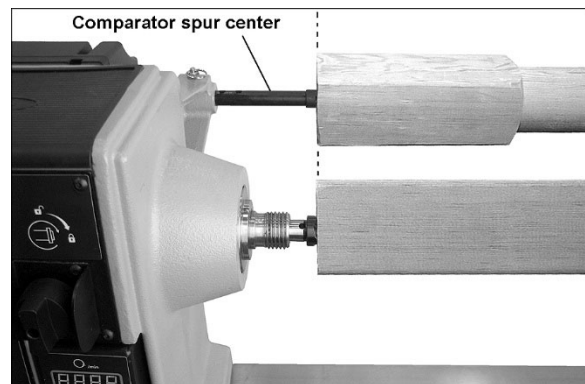

Figure 8-6: comparator
1. Install comparator *spur center* into guard bracket, by lifting up on plunger and inserting comparator spur center until its point is about even with point of spur center in headstock spindle. See Figure 8-6. The plunger in the bracket must engage one of the holes in the comparator center at this position.